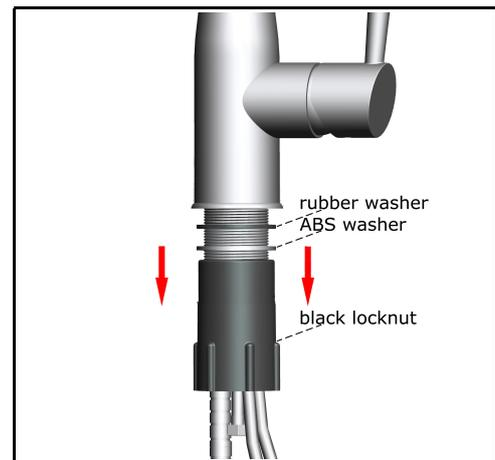

Figure 1
1. Remove the rubber washer, ABS washer and the black locknut from the threaded shank (**Figure 1**).